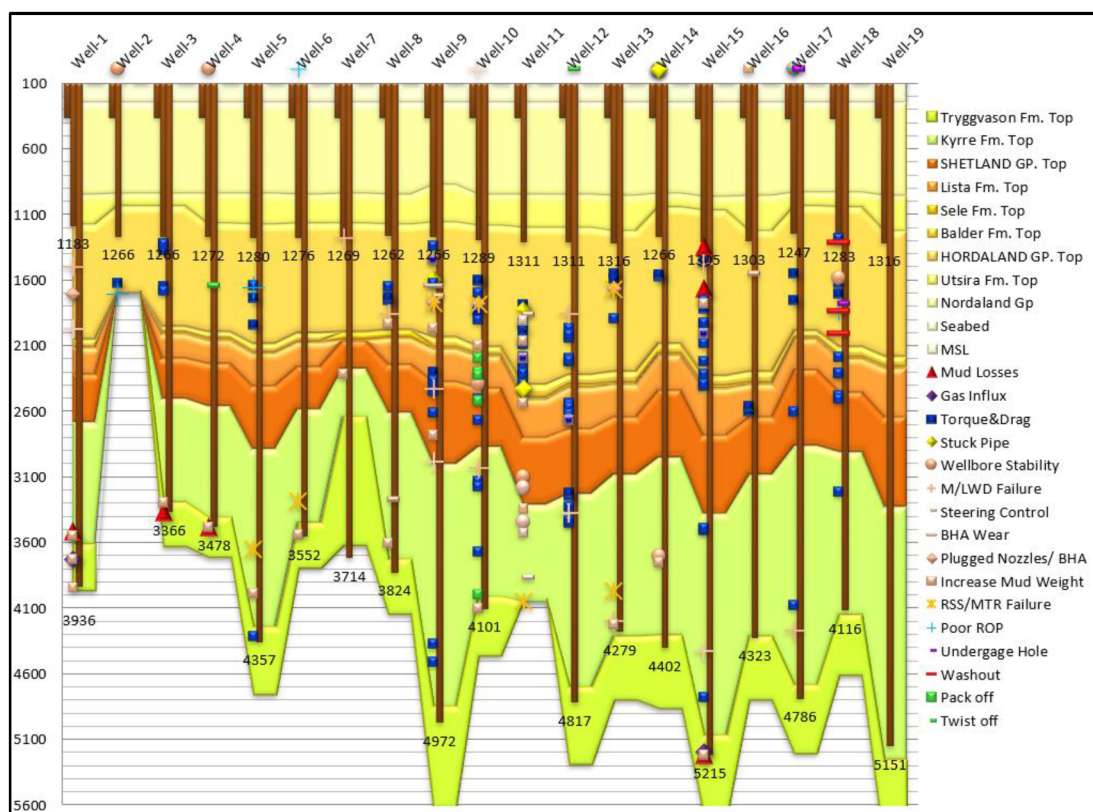

Figure 7—Event Log Plot for Offset Wells Study (Beeh, et al. 2025)
- An event log illustrating subsurface risks by formation and depth as shown in Figure 7.